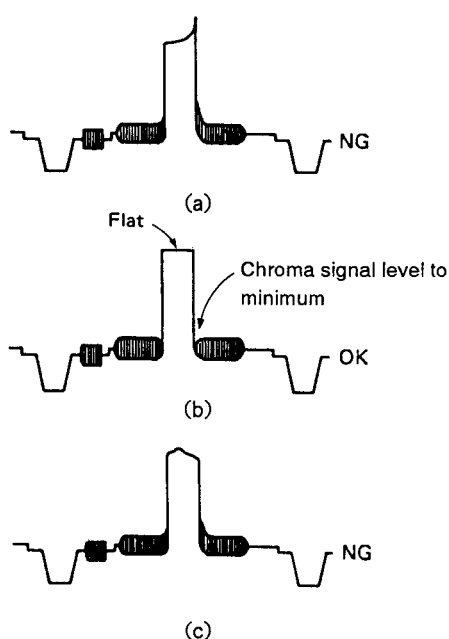

Fig. 15 Video Output Waveform (+Q section)
- Set S2 to position ① after completion of adjustment.
(2) Audio Trap Adjustment
- Set S1 and S2 to position ②, and apply +0dBmV Fv carrier and -5dBmV Fa carrier to the INPUT terminal.
(3) VCO Adjustment
- Set S1 to position ③, S3 and S5 to position ②, and apply a +5dBmV NON-SCR signal to the INPUT terminal.
- Set VR5 to center position and adjust T1 so that the signal appears on oscilloscope 2 as shown in Fig. 15.
- Adjust T1 so that the waveform of +Q section of the color bar becomes Fig. 15 (b).